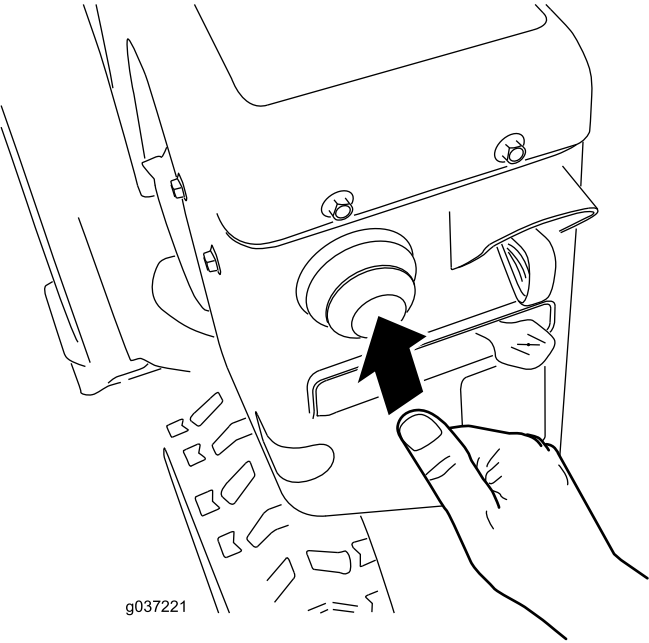

Figure 26
4. Firmly push in the primer with your thumb as indicated by the table below, holding the primer in for a second before releasing it each time (Figure 26).